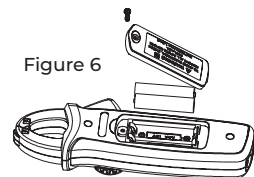

Figure 6
2. Battery Replacement (as shown in Figure 6)